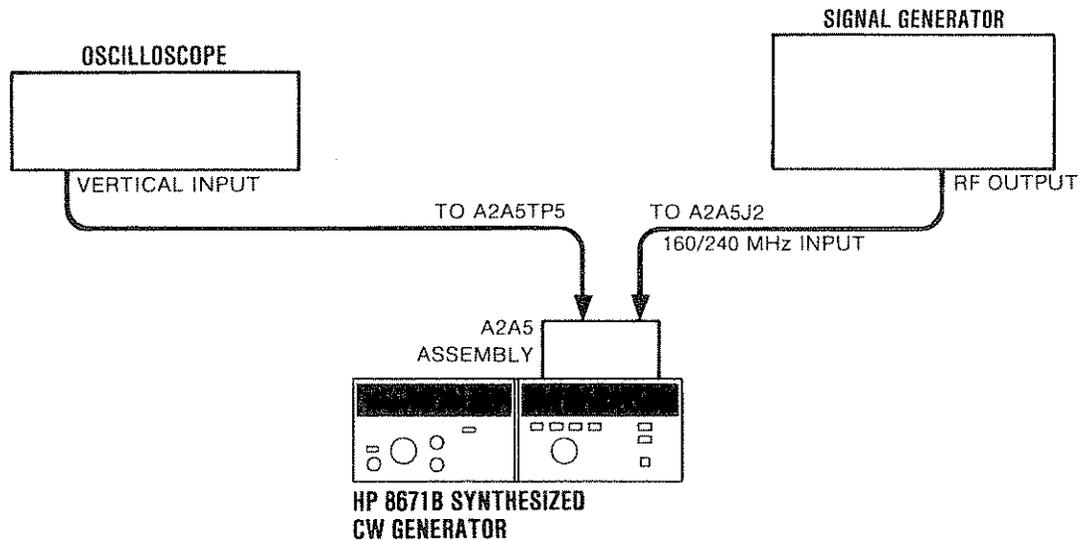

Figure 5-4. 20/30 Divider Bias Adjustment Test Setup
7. Connect the equipment as shown in Figure 5-4.